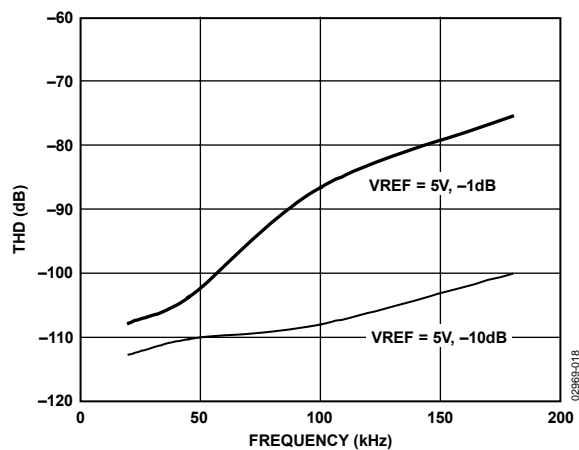

Figure 18. THD vs. Frequency
- For ac applications, the driver should have a THD performance commensurate with the AD7686. Figure 18 shows the THD vs. frequency that the driver should exceed.